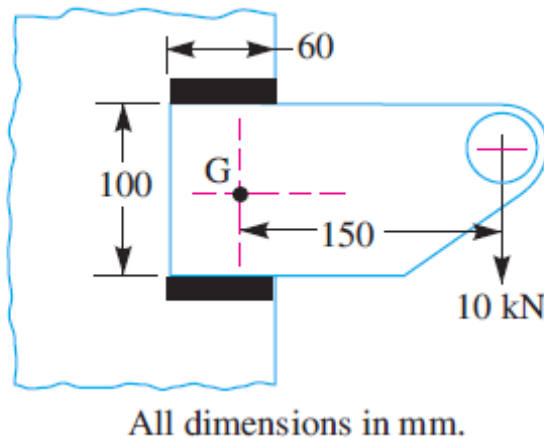

Fig.1
- 1) A bracket, shown in Fig.1, is to carry a load of 10 kN. Find the size of the weld if the allowable shear stress is not to exceed 80 MPa.